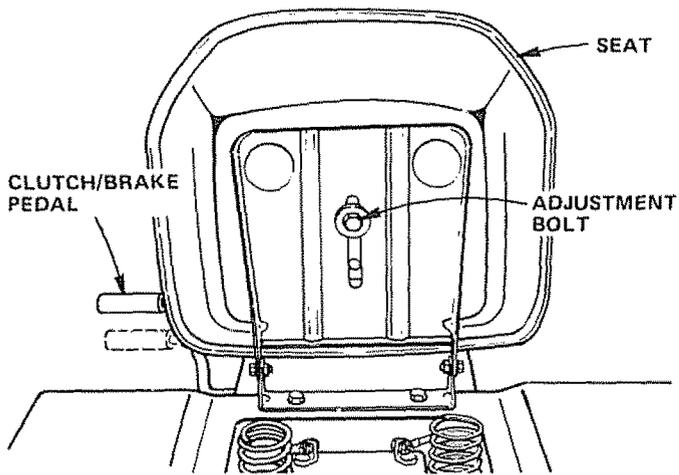

FIGURE 6
- Raise Seat. Use 3/4" wrench to loosen Adjustment Bolt (Fig. 6). When adjusted for comfortable operation, tighten Adjustment Bolt securely.